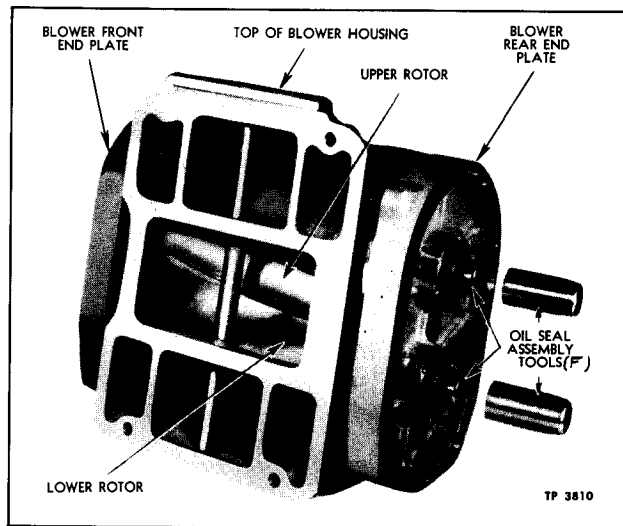

Figure 21—Use of Oil Seal Tools When Installing Read End Plate
1. If lip type seals are being used, install one oil seal pilot over serrated end of each rotor shaft. (See fig. 21.)